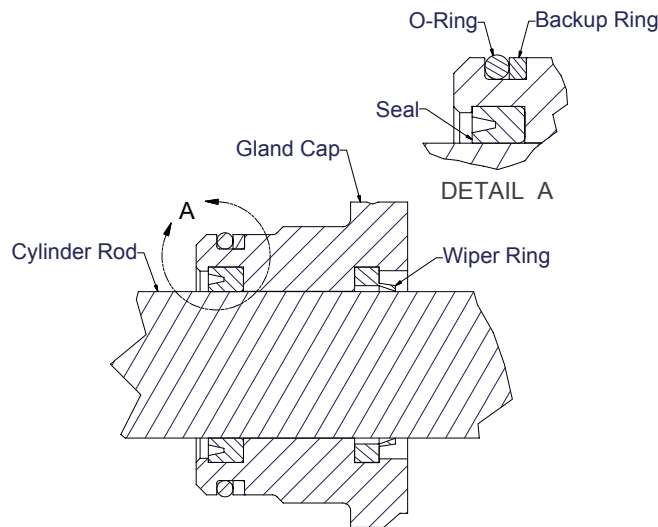

Figure 4-12, Gland Cap Seal
3. Install the seals and wipers in the gland cap. Note the direction of the seals. The cupped side or O-Ring side of the seal should be facing the piston. (Figure 4-12)